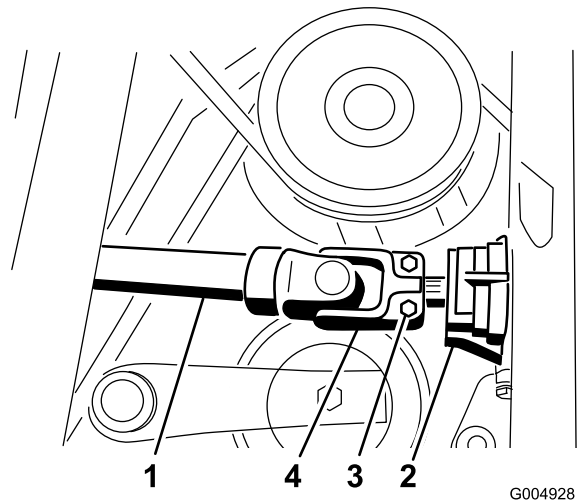

Figure 90
- 34. Slide the drive shaft onto the gearbox shaft (Figure 90). Install the roll pin and torque the bolts to 175-225 in-lb (20 to 25 N-m) .